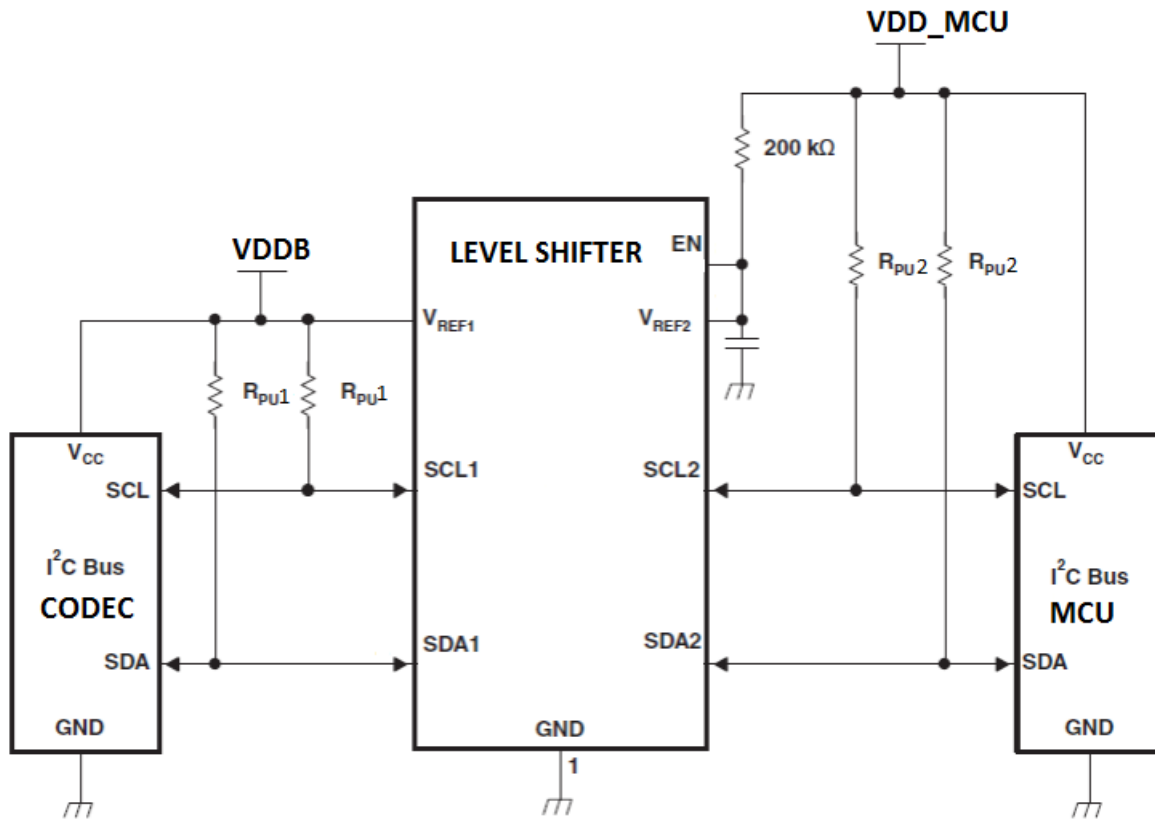

Figure 20: Typical I2C level shifter circuit
- Sometimes, I²C needs to use level shifter between different supplies domains. During Acknowledge, receiver side (CODEC) will pull low, and transmit side (MCU) is disable and pull high by pull high resistor. Because NAU88L21 SDIO can sink 2mA by default setting (maximum up to 8mA,) shown as below Figure 20, R_{PU1} and R_{PU2} need to be select such that total current $V_{DDB}/R_{PU1} + V_{DD_MCU}/R_{PU2}$ during Acknowledge should not be too large to exceed SDIO sinking capability.
Figure 20 provides the timing for Audio Interface Slave Mode.